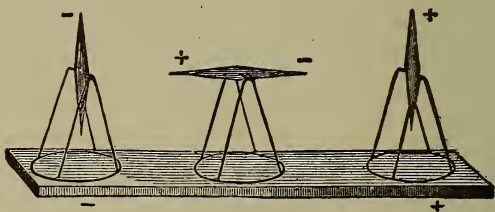

Fig. 73. Showing Dip or Inclination of Needle at Magnetic north pole, Magnetic equator, Magnetic south pole.
*Answer.* No. In Fig. 73 is shown the *Dip* or Inclination of the needle at the magnetic north pole, magnetic equator and magnetic south pole. As you leave the equator going either way the dip increases until you reach the poles.